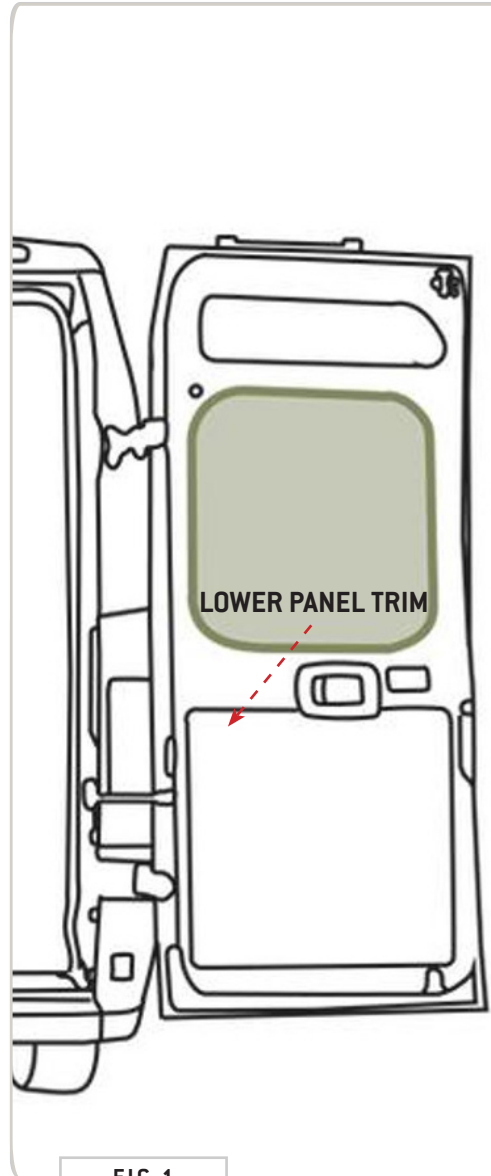

FIG 1
1.1 Door Panel Removal: Remove the Lower Panel Trim (FIG 1) using plastic panel removal tools. Be gentle to avoid breaking the factory panel clips. If clips get stuck in the door, pop them out and slide them back into place on the trim panel.
NOTE- You may have any number of different door configurations- stock full trim, stock half trim, stock panel (Pictured FIG 1), upholstered wood, etc. Each require their own removal method.